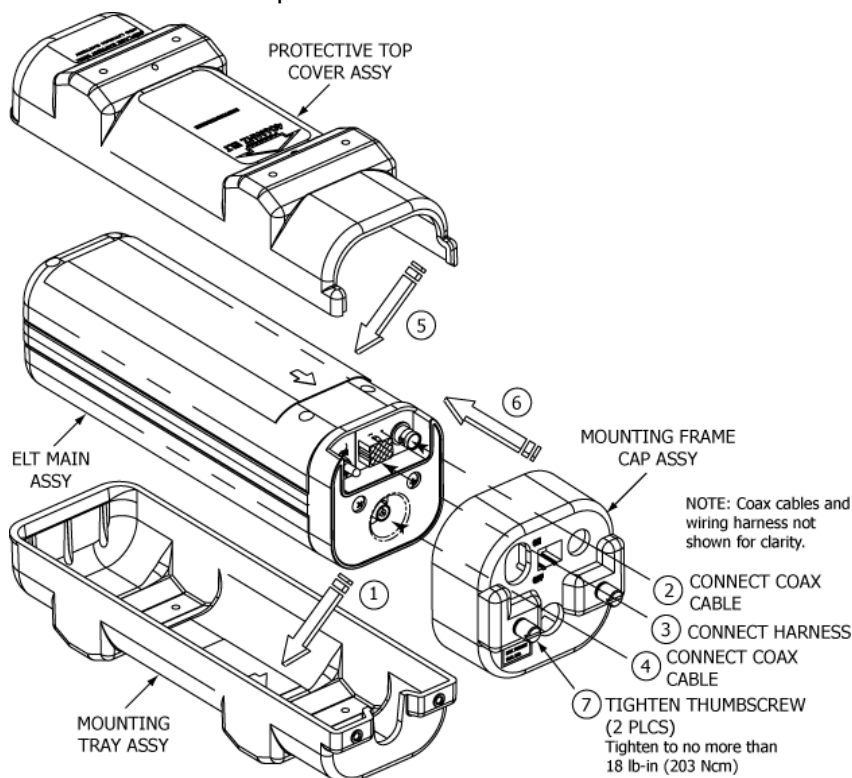

Figure 21 ELT Installation Sequence
- 1) See Figure 21 ELT Installation Sequence.